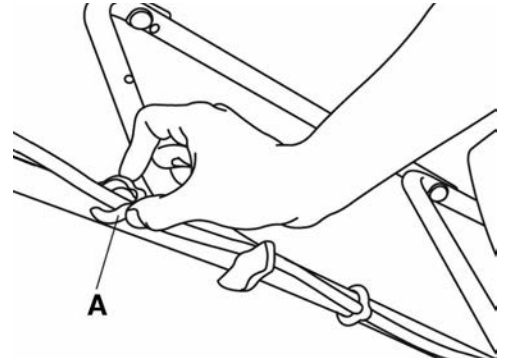

FIGURE 8
7. Locate the cable clips (A) Fig.8 in the parts bag. Secure the power cord to the frame of the unit by clipping them onto the frame at evenly spaced intervals.